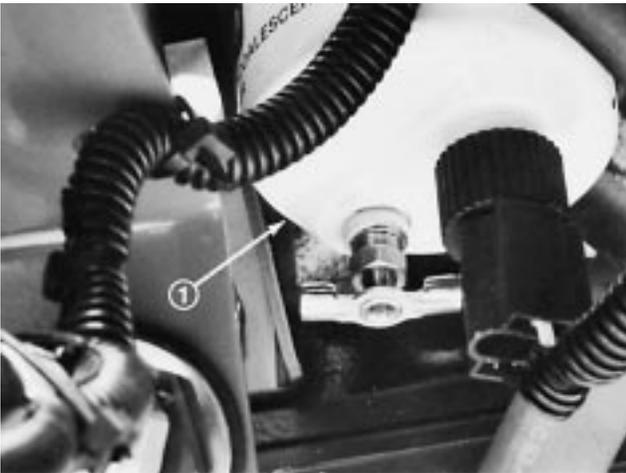

Figure 24
2. At lower left side of engine, loosen air bleed screw at top of fuel filter/water separator (Fig. 24).